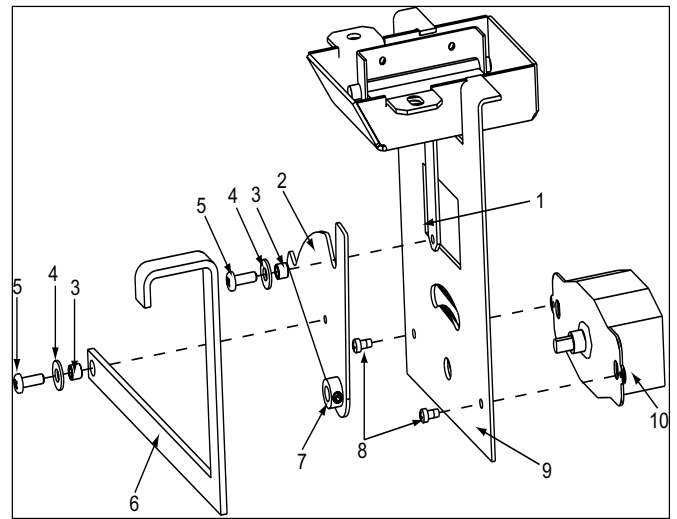

Figure 4.23 Exploded View of Entire Assembly for Point of Reference only
4. Rotate linkage control arm into final position and re-attach to mounting plate. Note that the D cut is now facing the linkage timer arm. Re-attach the linkage timer arm. Figure 4.23